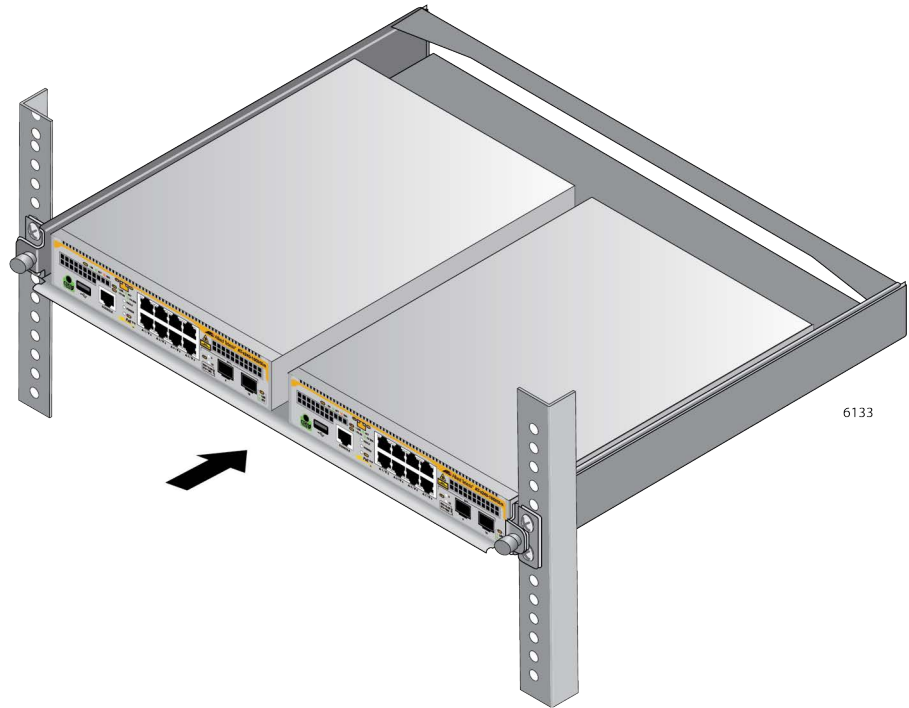

Figure 42. Sliding in the RKMT-J15 Bracket Tray
10. Slide in the bracket tray. Refer to Figure 42.